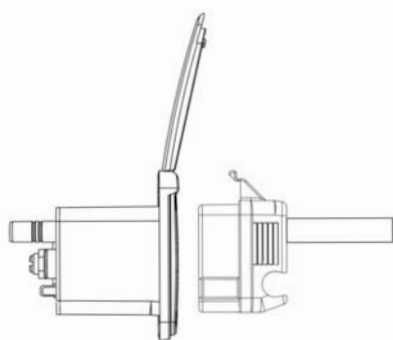

Fig. 1
- Fig. 1 Connecting EP1612 & EP1312 to Whale Watermaster Socket